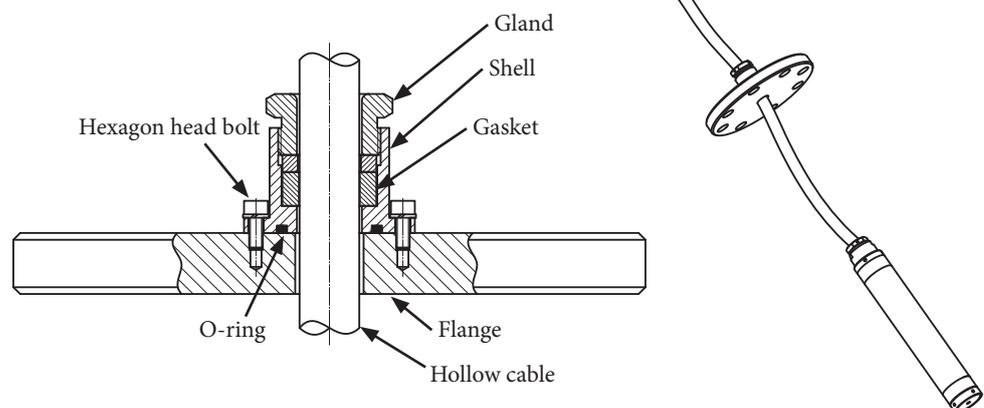

Fig. 3-1. Cable-retaining flange
- When using a cable-retaining flange, tighten the gland, compress the gasket, and fix the hollow cable. (➡ Fig. 3-1)